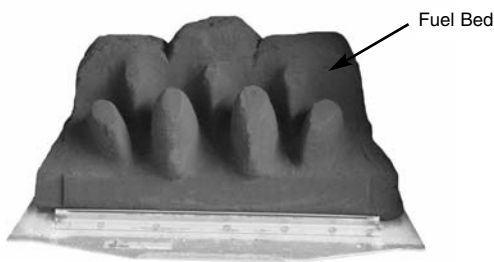

Fig. 16
1. Place the main fuel bed on to the middle section of the metal burner tray. It is important that the front edge of the fuel bed is located behind the burner strip (Fig. 16).